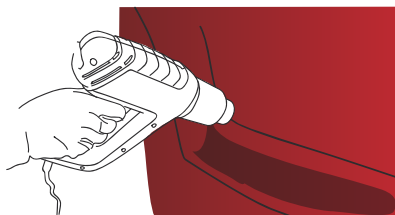

Figure 12
- › Start applying the film with a squeegee (previously covered with felt), by forming a 30° angle with the substrate and working from the centre towards the edges. (FIG. 12)
- › Once this step is completed, reheat all the hollow parts that have undergone heavy deformation between 80 °C and 90 °C (176 °F and 194 °F) to thermoform the product definitively. (FIG. 12)